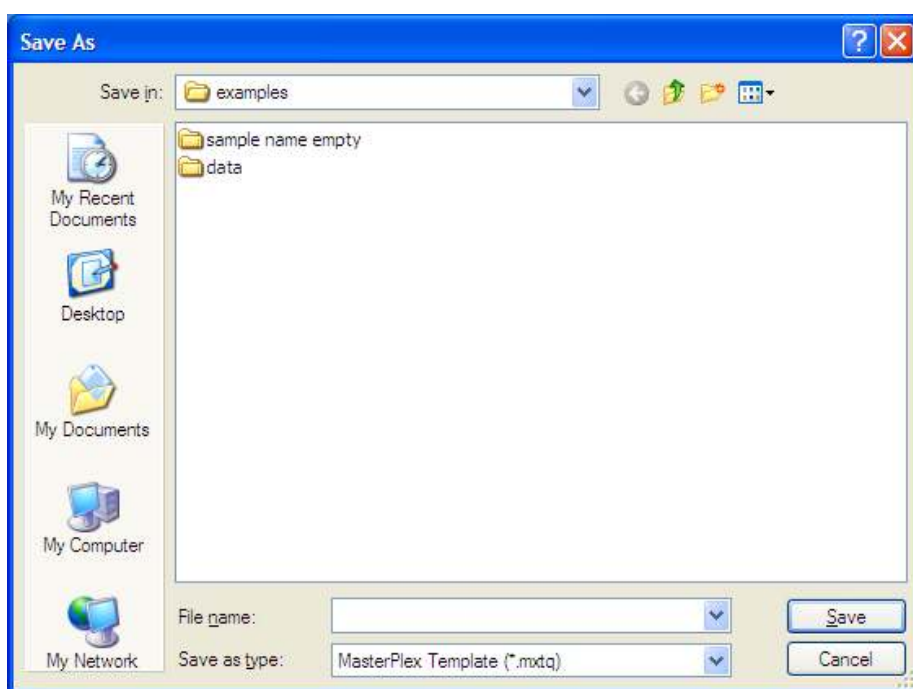

Figure 4.28 Save As dialog box
- ⇒ The Save As dialog box appears (Figure 4.28).